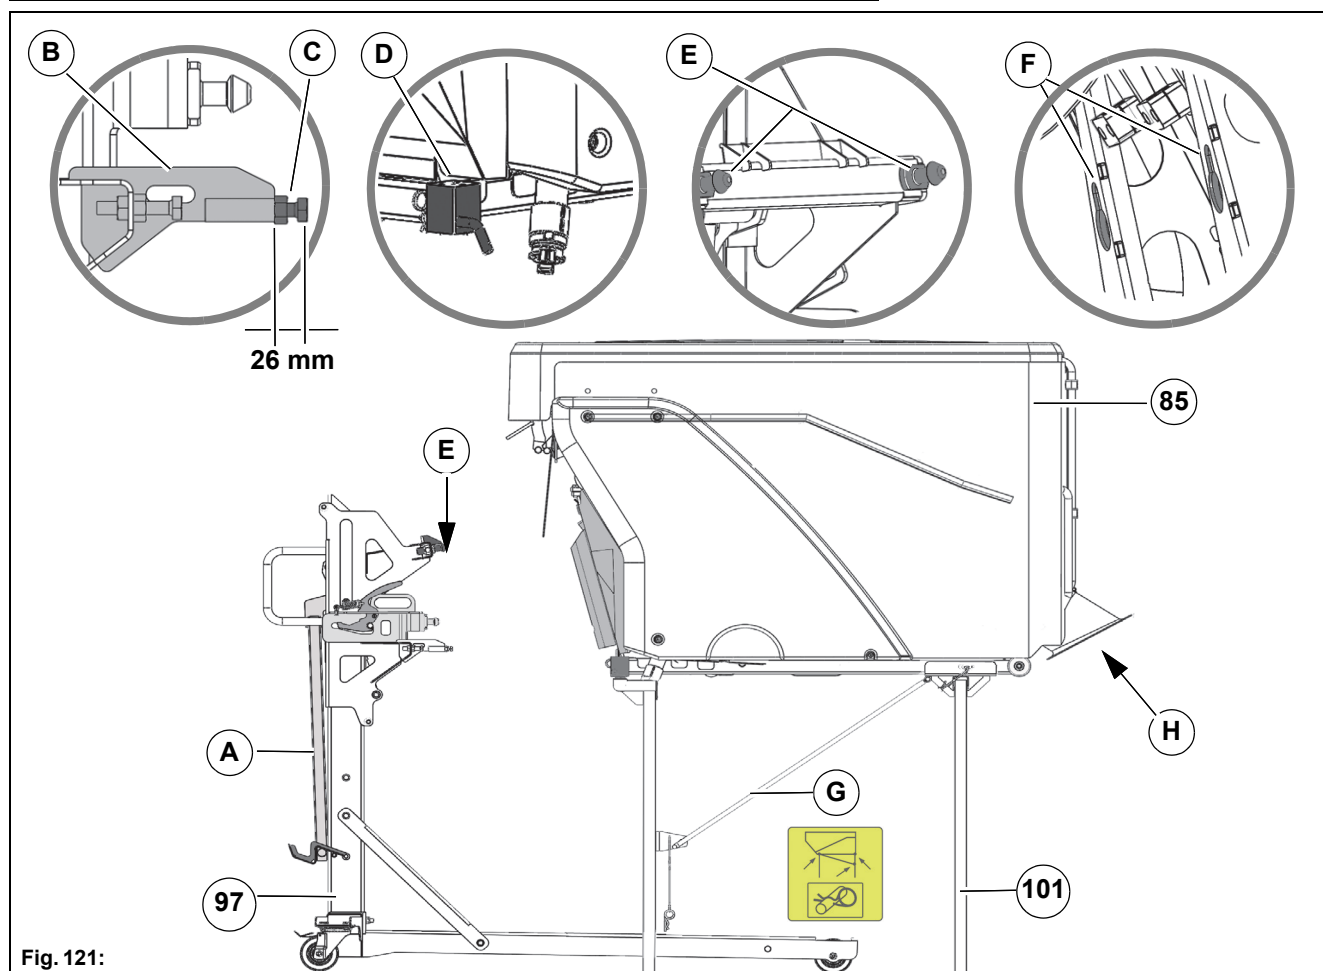

Fig. 121:
Risk of injury due to tilting over! Make sure that the cross strut **Fig. 121-G** has been inserted when transporting the dirt hopper on the supports **Fig. 121-101**. Secure the supports with bolts and splints.
6. Push the trolley with the positioning aid **Fig. 121-B** against the fixed bearings **Fig. 121-D** of the dirt hopper. The screw **Fig. 121-C** must be adjusted to 26 mm!
7. Carefully lower the lever **Fig. 121-A** of the trolley and make sure that the upper locking pins **Fig. 121-E** sit in the holders of the dirt hopper **Fig. 121-F**. Lock the lever **Fig. 121-A**.
Protect the seal of the suction nozzle **Fig. 121-H** with a cover plate.